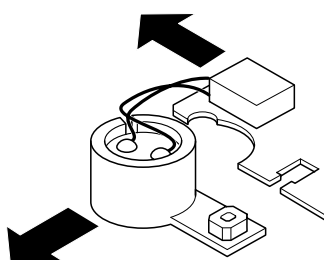

Figure 5: Microphone removal
5. Figure 5 Remove the microphone from the C assembly